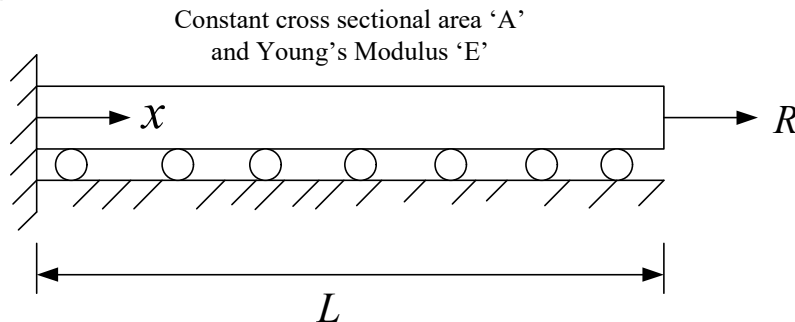

Fig.1. One-dimensional axial bar
Q.5(b) Consider the one dimensional bar shown in Fig. 1. The bar is subjected to a concentrated force 'R' at its right end. Write down the Differential and Variational formulation of the bar that gives the governing equations. [4]